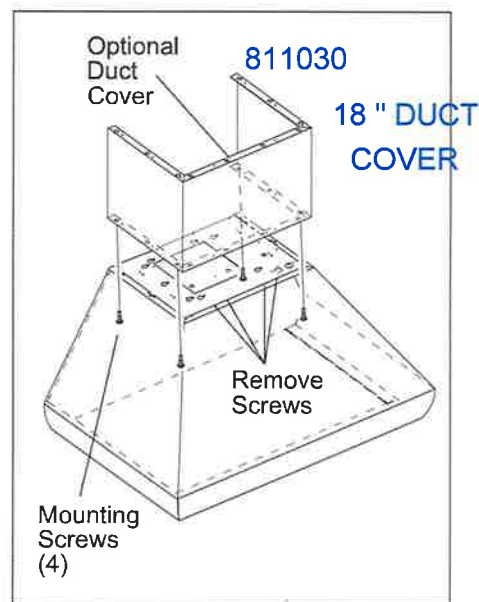

Figure 1
3. Remove screws along top front edge of hood (See Figure 1). Then, lift duct cover into place. Slide duct cover into opening between top of hood and cabinet or soffit. Attach duct cover from inside of hood opening using #8 x 1/2" screws provided with duct cover assembly.